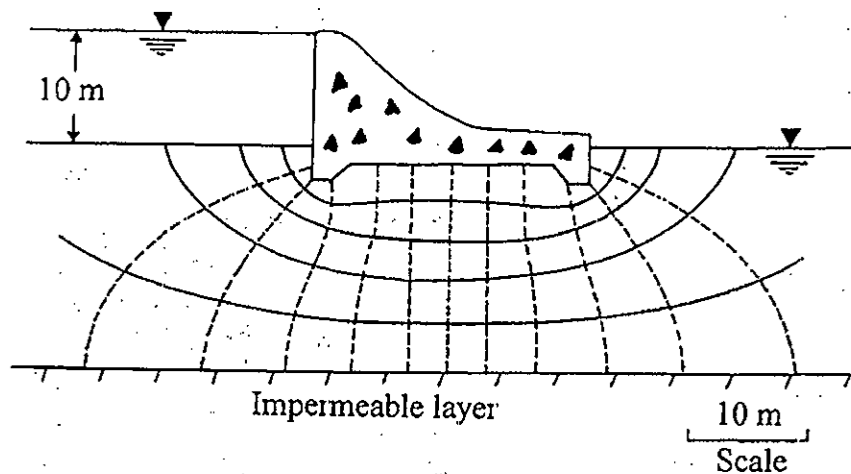

Fig. 2
- (b) Calculate the flow rate of unit thickness at downstream for Fig. 2 with  $k=2 \times 10^{-3} \text{ cm/sec}$ . (5 pts)
- (c) If the flow net of Fig. 2 is the transformed one for  $k_H/k_V = 4$  and  $k_V = 2 \times 10^{-3} \text{ cm/sec}$ , calculate the flow rate of unit thickness at downstream. (5 pts)